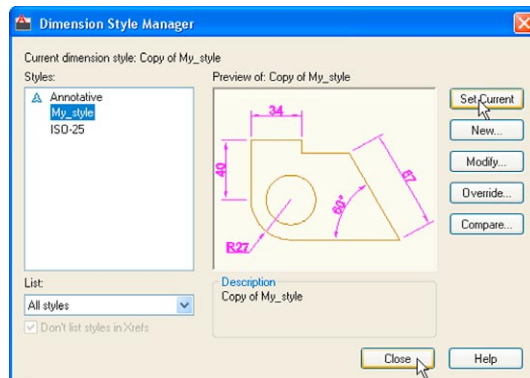

Fig. 4.14 The Dimension Style Manager reappears. Click the Set Current and Close buttons
9. *Enter* a suitable name in the **New Style Name:** field – in this example this is **My-style**. *Click* the **Continue** button and the **Dimension Style Manager** appears (Fig. 4.14). This dialog now shows a preview of the **My-style** dimensions. *Click* the dialog's **Set Current** button, following by another *click* on the **Close** button. See Fig. 4.14.